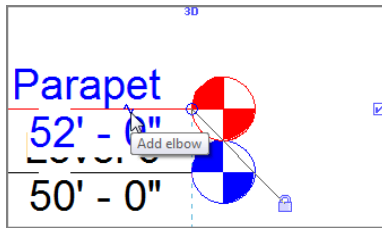

FIGURE 3.13: You can add an elbow to the elevation marker.
- The blue items light up. One of them is the choice to add an elbow, as shown in Figure 3.13. Click it, and Revit bends the level.